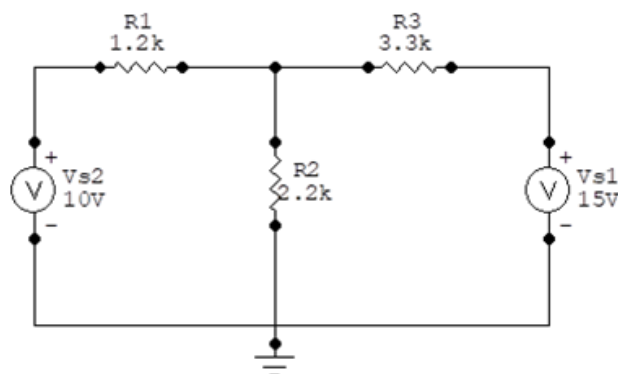

FIG 3.1
(a) Construct the network of Fig 3.1 and insert the measured resistor values.
(b) Using superposition and the measured resistor values, calculate the currents indicated in table 3.3 for the network of Fig 3.1 next to each magnitude include a small arrow to indicate the current direction for the complete network.
TABLE 3.3 calculated values for the network of fig 3.1
- (c) Energize the network for Fig 3.1 and measure the voltages indicated in Table 3.4
and the direction of the currents on Fig 3.1
TABLE 3.4 Measured values for the network of Fig 3.1
TABLE 3.7 Algebraic results of the networks of Fig 3.1